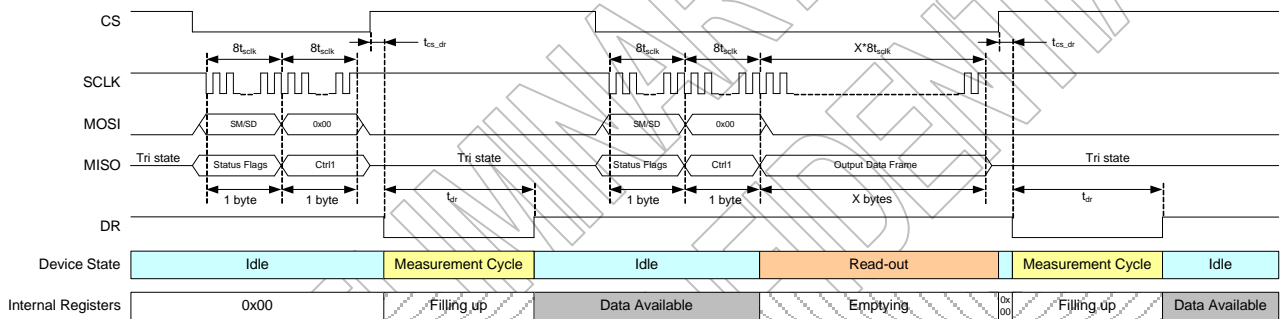

Figure 14 : Combined SM - RO (X value is defined in Figure 12)
- Figure 14 shows the operation with the combined SM and RO. First one has to upload a SM command to start a measurement. The data is available for read-out when the DR pin goes high. Instead of uploading a RO command, a SM command can be uploaded again to combine read-out and the start of the next measurement cycle. If extra clocks are given after upload of the SM command, the data of the internal registers becomes available on the MISO pin. Note that the CS pin shall not be set high until the read-out is finished. Once CS pin goes high, the DR pin is set low and a new measurement cycle will be started. A time tdr later the DR pin goes high to indicate that the data is available.